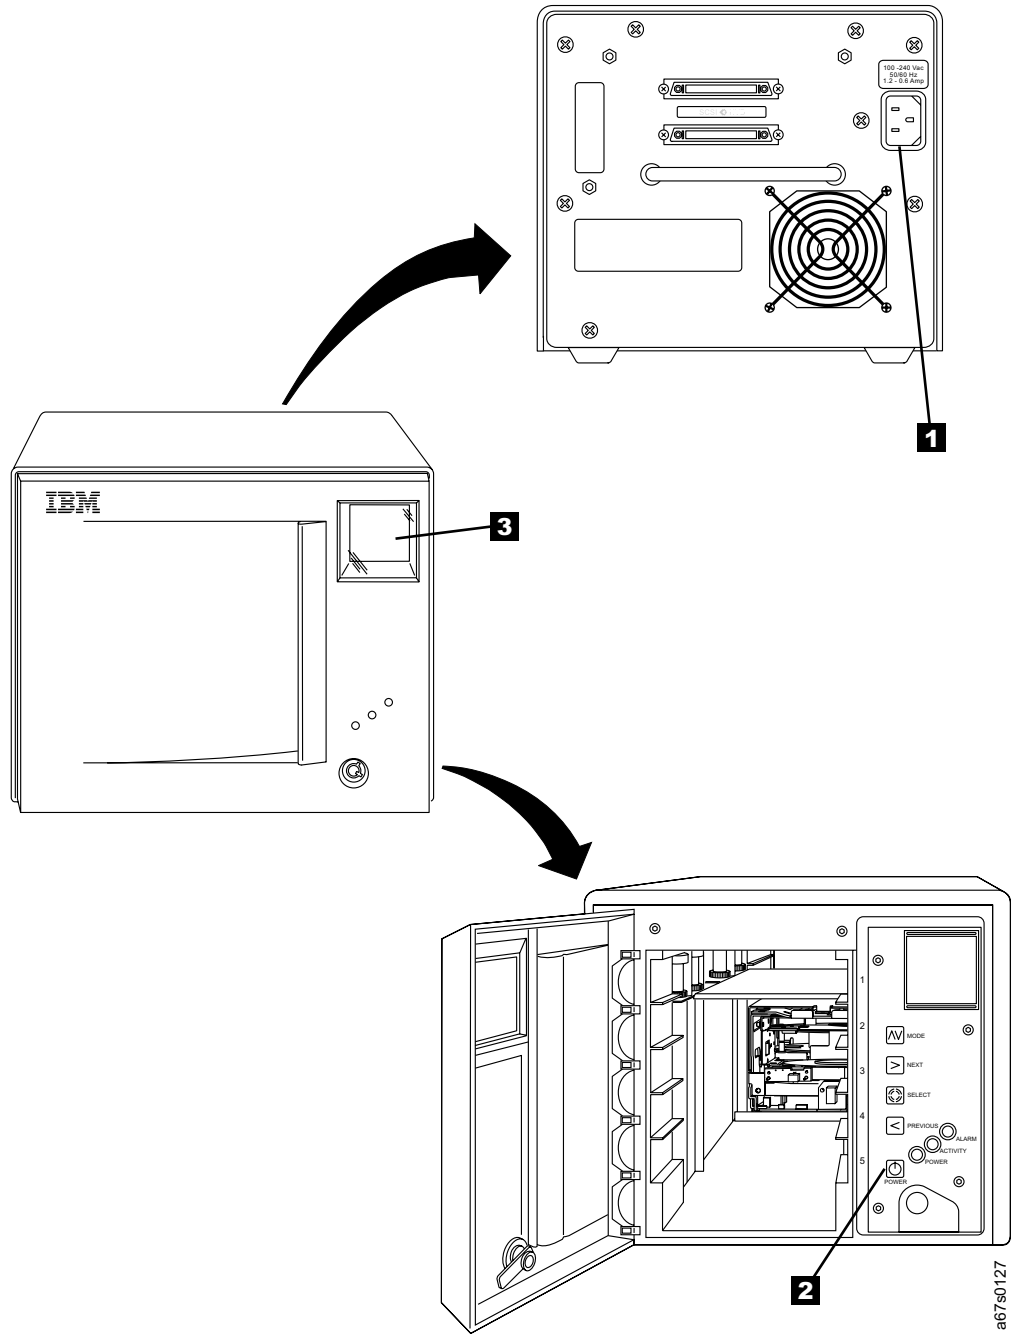

Figure 2. Connecting power to the 3581 Tape Autoloader
- ___ 2. Plug the power cord into the receptacle at the rear of the 3581 Tape Autoloader (see **1** in Figure 2 on page 9), then plug the other end into a grounded electrical outlet.
- ___ 3. Open the front door and power-on the 3581 Tape Autoloader by pressing and releasing the POWER button (**2** in Figure 2 on page 9). When the autoloader completes the Power-On Self Tests (POSTs) for the drive and the library, a message appears in the message display **3**. The message varies, depending on the autoloader's mode of operation: